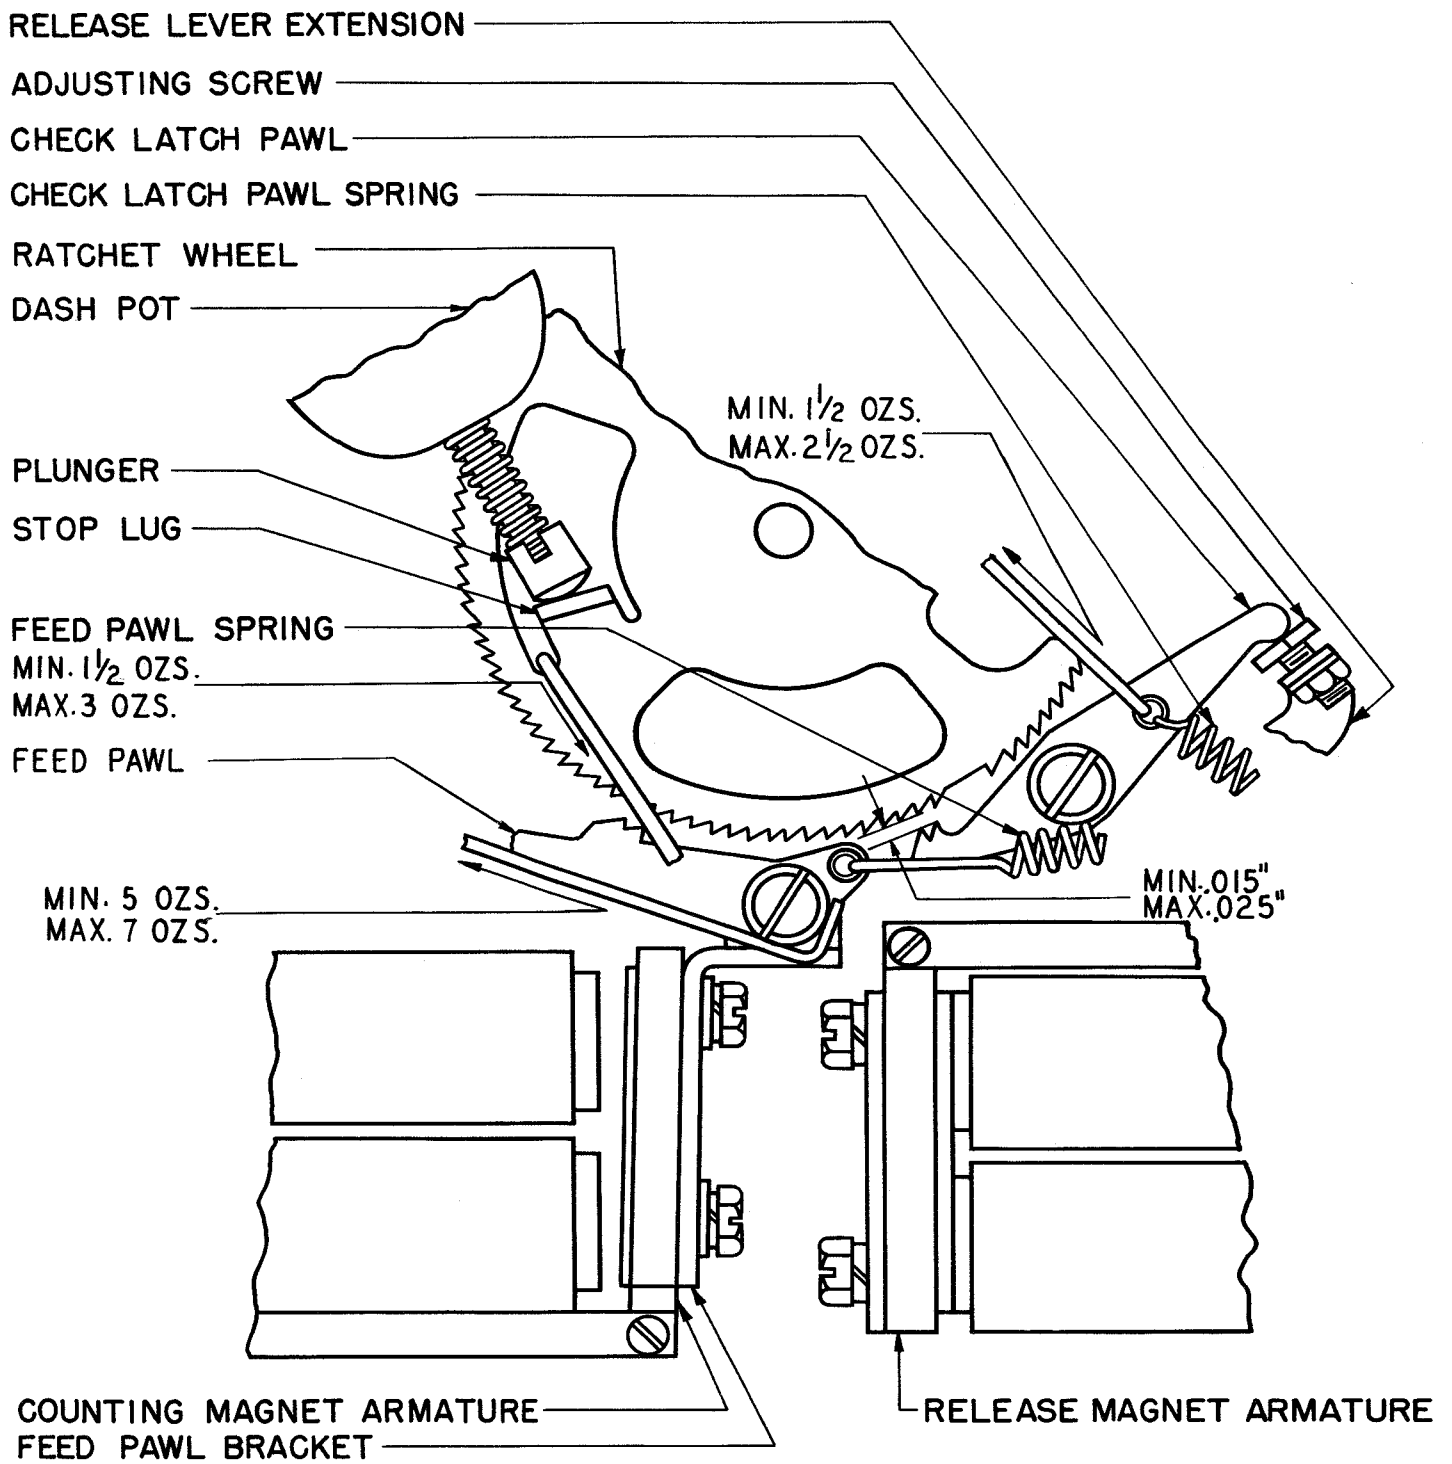

Figure 24
To Adjust: Remove the armature assembly from the unit. Set the screws which hold the bracket to the armature so that the bracket is friction tight, and put back the armature assembly on the unit. Adjust the bracket for the correct position of the pawl, remove the armature assembly, and tighten the bracket mounting screw. Replace the armature assembly. See Figure 24.
is in full engagement with the plunger throughout the plunger stroke. See Figure 24.
2.55 Ratchet-return Spring Tension: It should require a pull as specified in the figure to move the stop-lug away from the end of the plunger. See Figure 24.
To Gauge: Manually operate the release magnet and hold the dashpot plunger depressed. Pull in a counterclockwise direction as indicated in Figure 24.
against the magnet cores. Hold the ratchet so the teeth on the check-latch pawl are opposite the teeth on the ratchet. See Figure 24.
2. 61 Check-latch-pawl Spring should require a pull as specified in the figure to start the pawl moving when the release-magnet armature is in the operated position. See Figure 24.
To Adjust: Position the indicator, keeping the outer edge of the hub flush with the end of the shaft. See Figure 24.
2.64 Feed-pawl Spring: It should require a pull as specified in the figure to start the pawl moving. See Figure 24.
To Adjust: Loosen the lamp-contact-cam setscrew and position the cam, simultaneously locating it so the ratchet shaft has some endplay, not over 0.004 inch. See Figures 24 and 30.